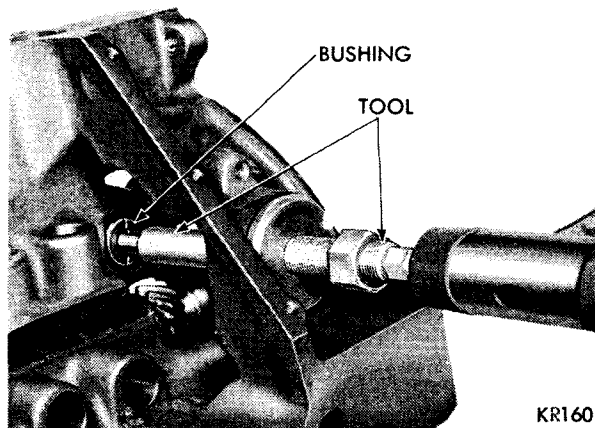

Fig. 27—Installing Distributor Drive Shaft Bushing
(2) Drive bushing and tool into position, using a hammer (Fig. 27).